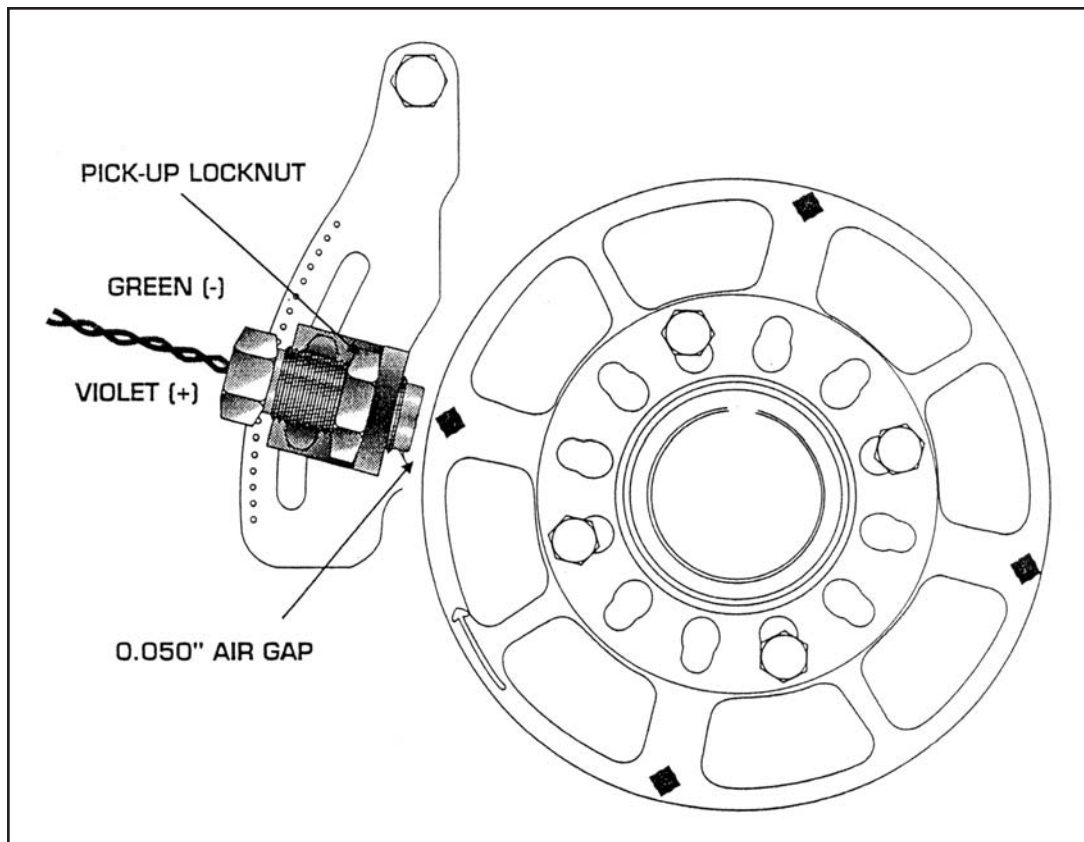

FIGURE 1- SETTING THE AIR-GAP
1. With the pickup brackets and trigger wheel mounted, set the air-gap between the wheel and the pickup to approximately 0.060"-0.80". To adjust the position of the pickup loosen the locknut and screw the pickup into out of the bracket until the correct air-gap is obtained. (**Figure 1**).